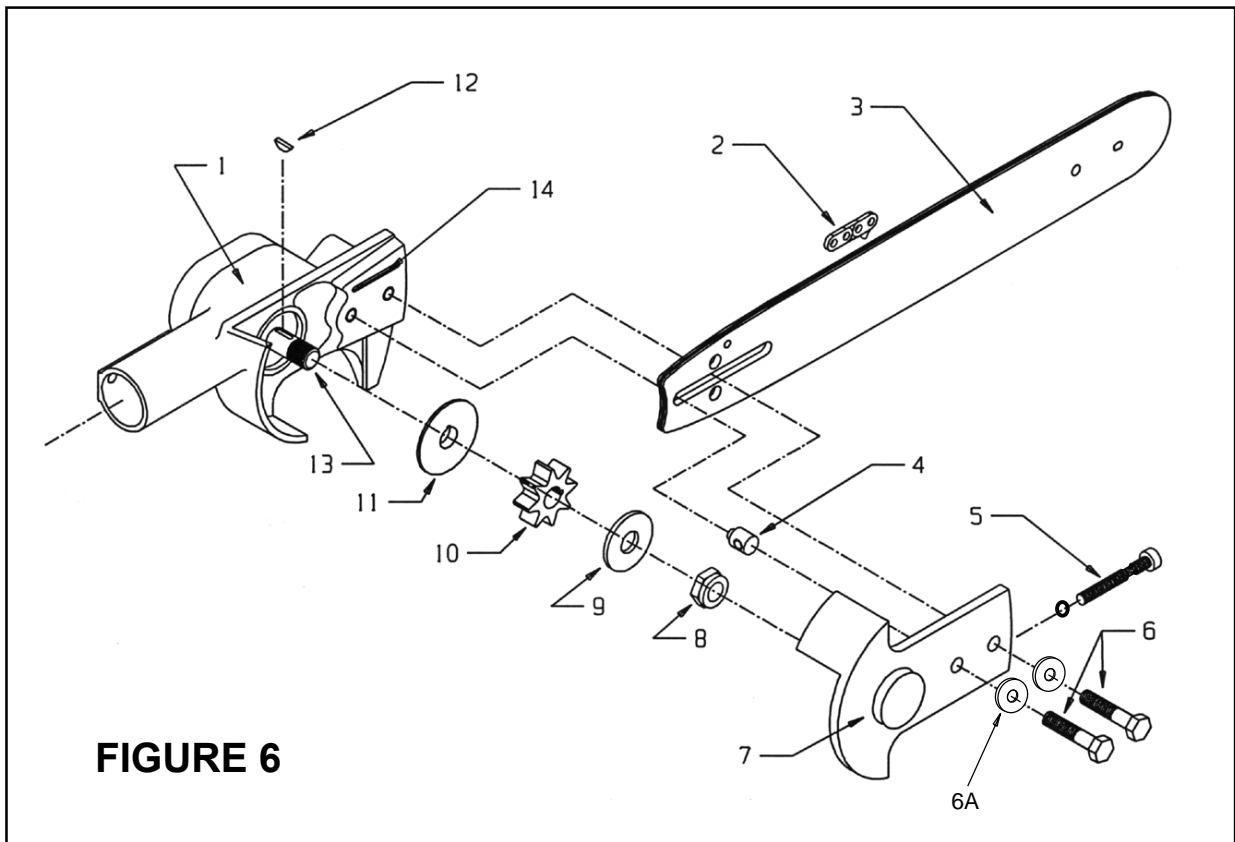

FIGURE 6
Adjusting and installing saw chain is an ongoing task. Fig. 6 may be found on page 16.
See Fig. 6 exploded view as a reference to explain this procedure. Start by removing two hex bolts (6) and pull off cover (7). This exposes the blade assembly for maintenance, adjustment, and replacement of the chain blade. Inspect and clean oil groove (14) to allow for correct chain lubrication. Remove saw chain (2), adjusting screw (5), chain adjuster (4), and chain bar (3). Remove lock nut (8). This allows for the removal of: (9), (10), (11) and (12) from drive shaft (13).
See Figure 6, Page 17